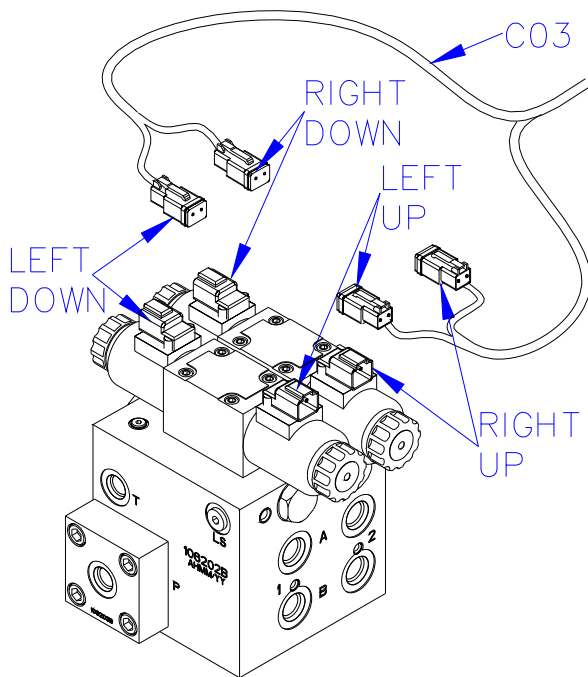

Figure 38: Valve Cable Connections
3. Install the 2-pin connectors from C03 onto each NORAC valve as shown in **Figure 38**.